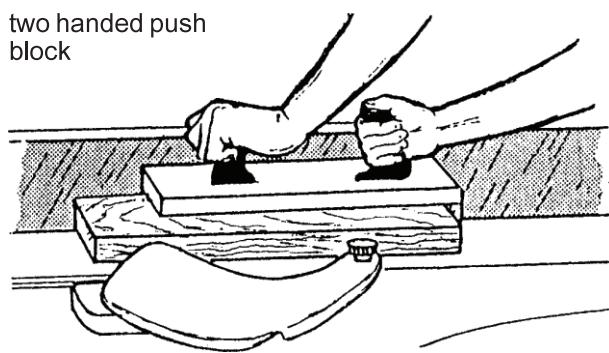
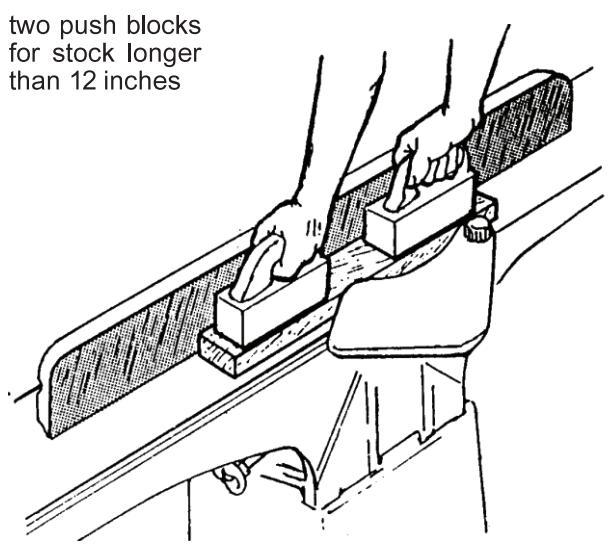
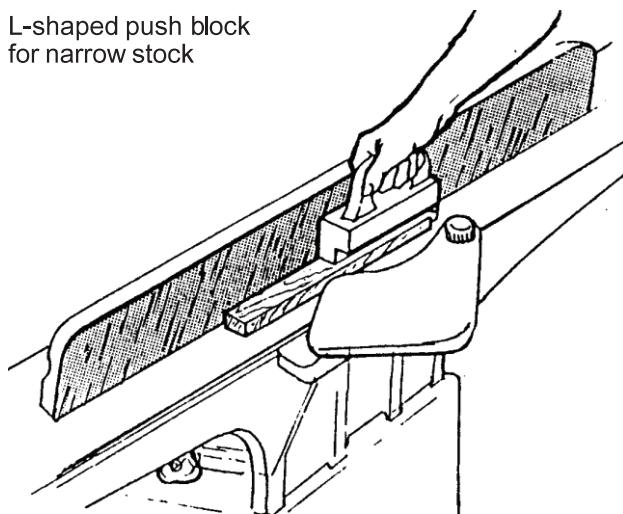
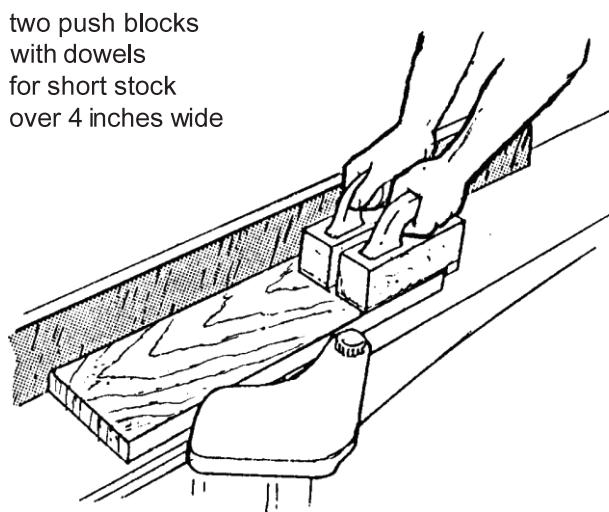

Fig. 31
FIG. 32
FIG. 33
FIG. 34
5. Keeping hands well clear of the cutterhead, place the stone into position as shown in Fig. 34, and slide the oilstone back and forth across both tables until the knives are lightly jointed.
Never surface pieces shorter than 12 inches or thinner than $3/8$ inch without the use of a special work holding fixture. Never surface pieces thinner than 3 inches without the use of a push block. On stock 8" to 12" long use a single two-handed push block (Fig. 31). On stock longer than 12 inches use two push blocks (Fig. 32). With narrow stock use the type push block shown in Fig. 33. When surfacing short stock over 4 inches wide, use two (2) push blocks to guide material over cutterhead (Fig. 34).